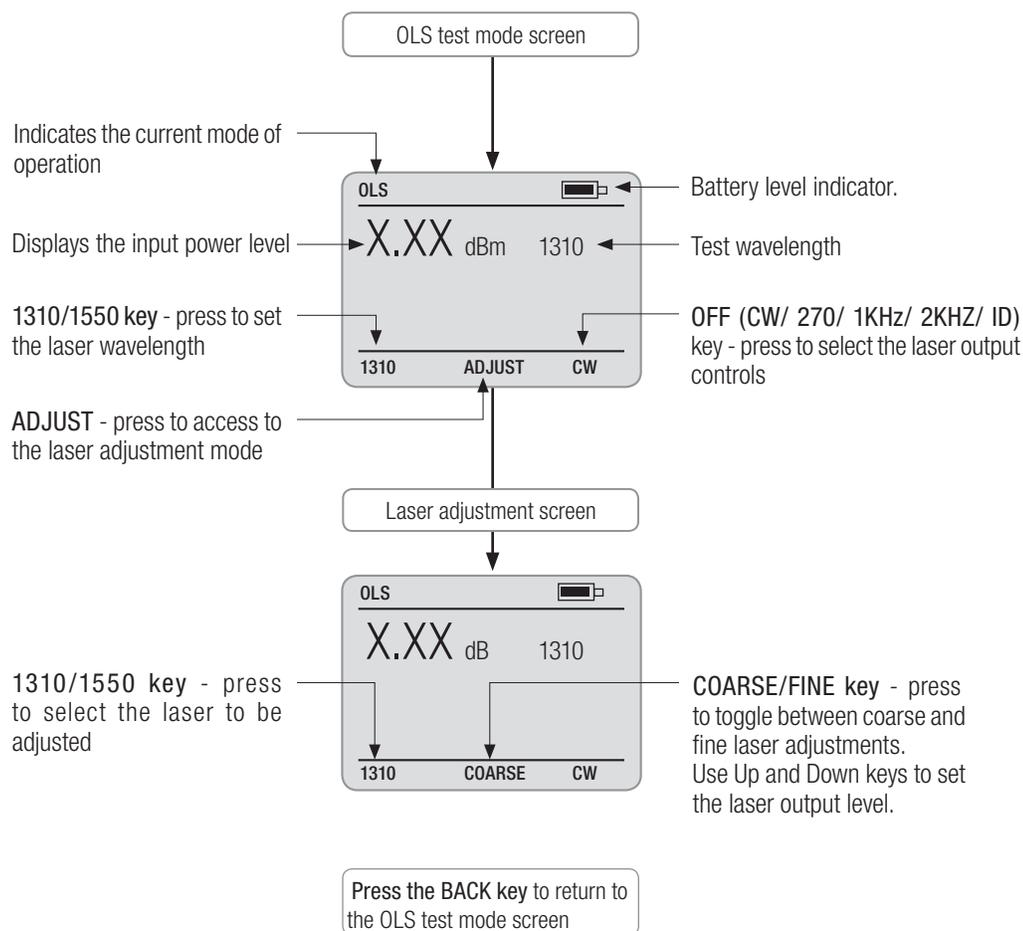

Figure 5-2. OLS Test Mode Screen and Features.
- 2 From the OLS test mode screen, press the ADJUST soft key to access the laser adjustment mode (refer to Figure 5-2).